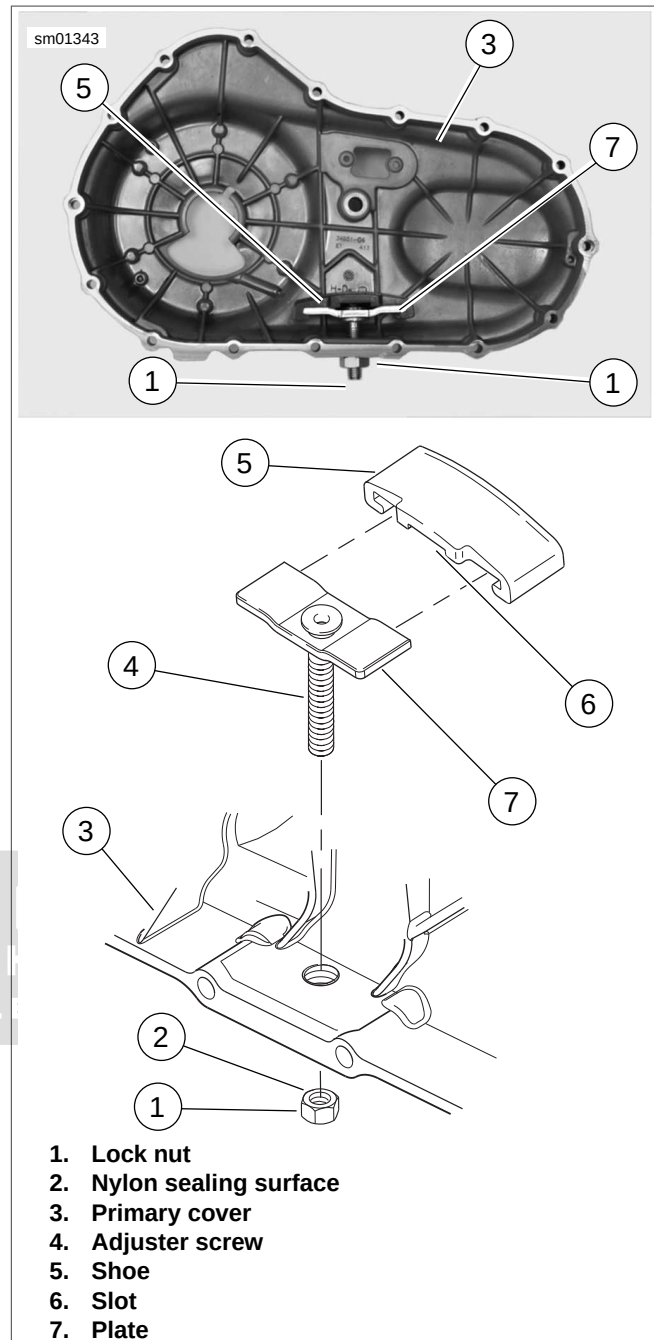

Figure 5-5. Primary Chain Adjuster Assembly
See Figure 5-5. Remove lock nut (1) from adjuster screw (4). Turn adjuster screw out of threaded boss in primary cover (3).
1. See Figure 5-5. Inspect primary chain adjuster shoe (5). If badly worn or damaged, it must be replaced.
2. Position adjuster inside primary cover (3) with closed side of shoe against cover. Thread adjuster screw (4) all the way into tapped boss at bottom of primary cover.
3. At outside of cover, thread lock nut (1) onto adjuster screw with nylon sealing surface (2) toward cover. A 1/4-inch allen wrench may be inserted into end of adjuster screw to hold it while threading lock nut.